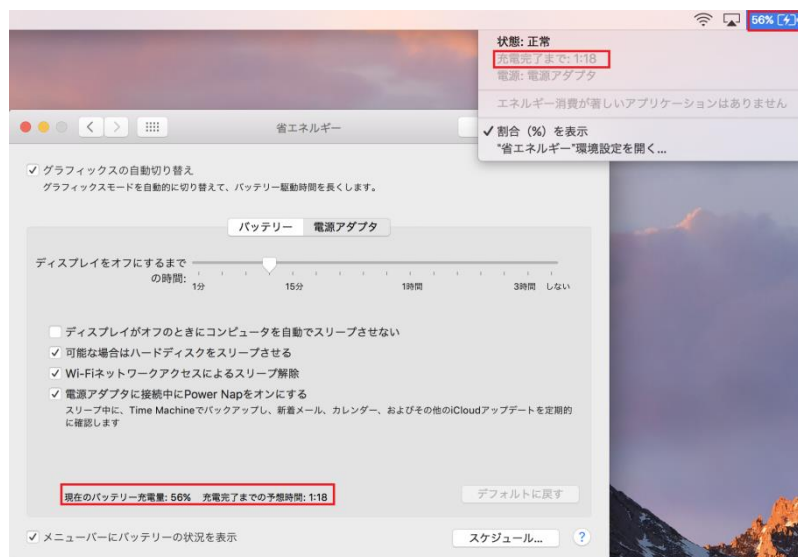

Figure 5-17 Confirming Power Is Received by MacBook
- 1) For example, click the battery mark “” for MacBook Pro. The battery's charge and the time remaining to full charge are shown, as in Figure 5-17. This shows that the battery in the MacBook Pro is being charged by the board.